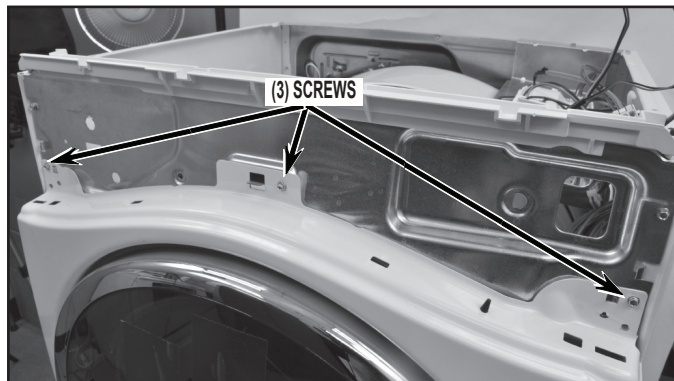

FIGURE 7
9. Remove the three (3) screws from the top of the front panel as shown in *Figure 7*.